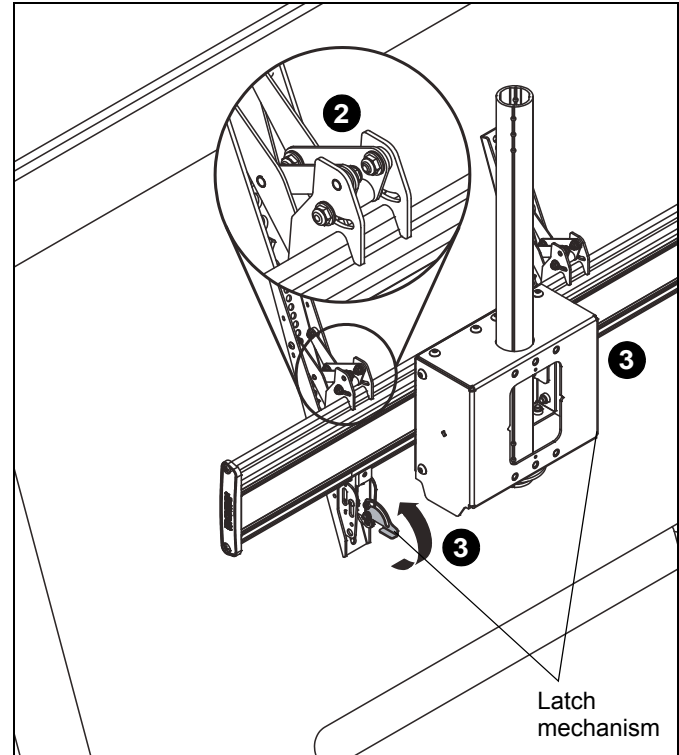

Figure 9
- While supporting both sides of display, lower display onto ceiling mount, hooking top of interface brackets onto front of ceiling mount. (See Figure 9)
- Raise the latch mechanism on both interface brackets to lock bracket in place. (See Figure 9)